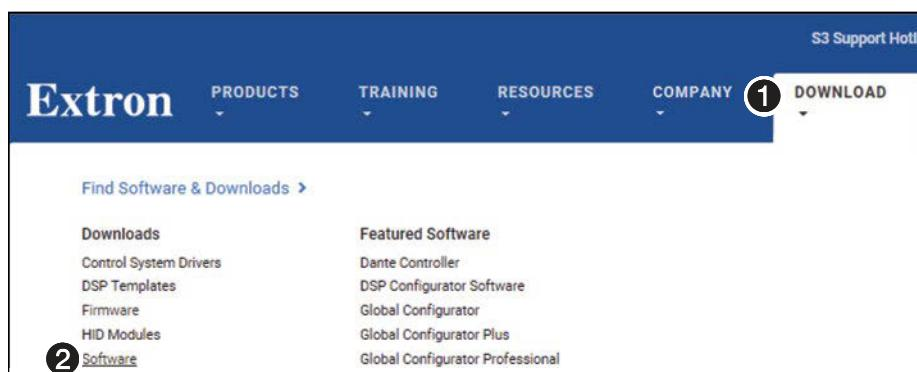

Figure 85. Location of Software on the Website
1. Go to www.extron.com and click the **Download** tab (see figure 85, ①).
2. Click the **Software** link on the main download page (see **figure 85**, ② on page 147).